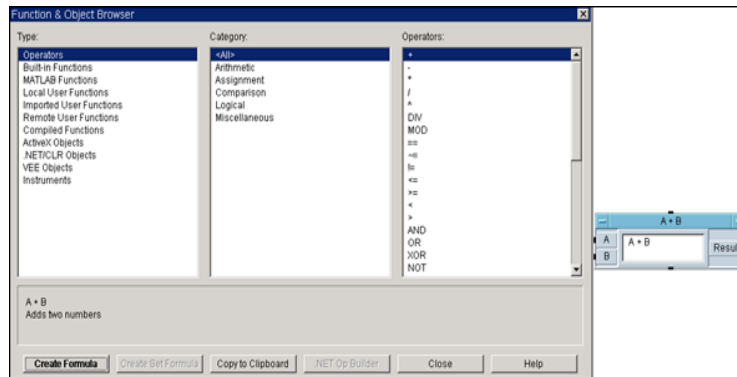

Figure 1-21 Function & Object Browser pop-up dialog box and its Formula object
- b The box that appears is a "pop-up dialog box". See Figure 1-21 (the dialog box can be sized by clicking and moving its outside borders).